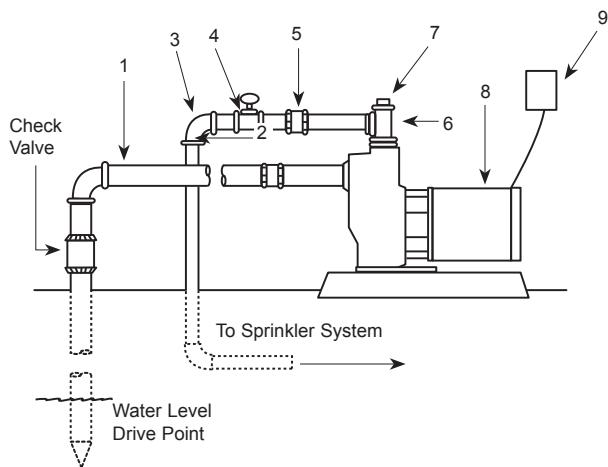

Figure 3 — From Ground Water “Drive Point”
- Refer to Figures 3, 4, 5, and 6 for typical installations. If galvanized pipe is used, both the